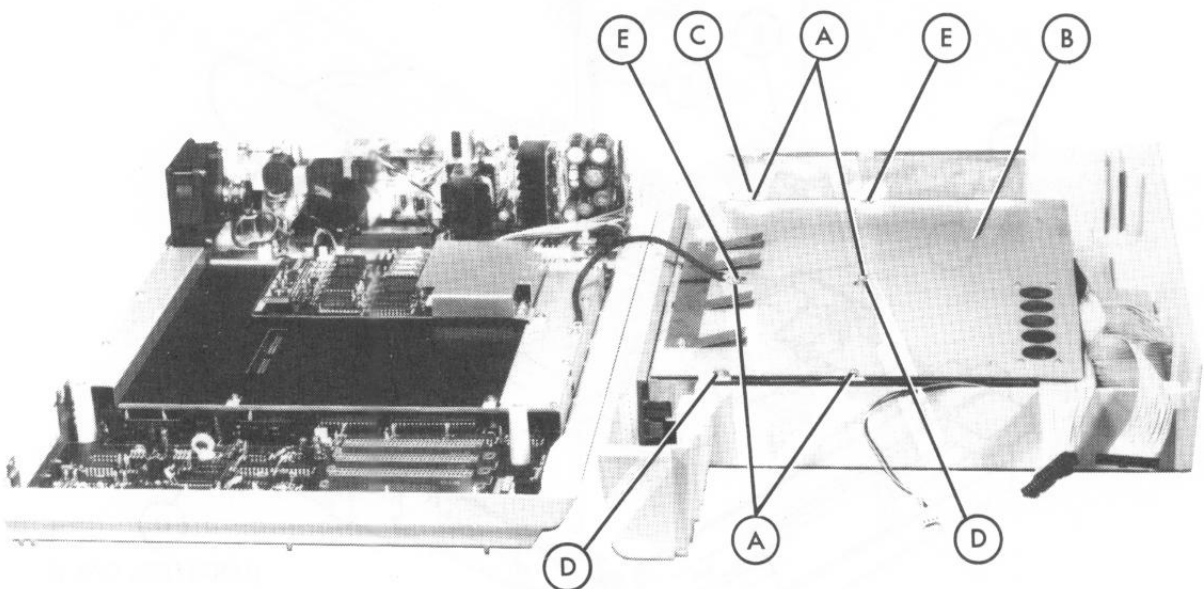

FIGURE 4-7. FDD UNIT REMOVAL/REPLACEMENT
4.3.1 FDD Unit Removal (Figure 4-7)
4.3.2 FDD Unit Replacement (Figure 4-7)